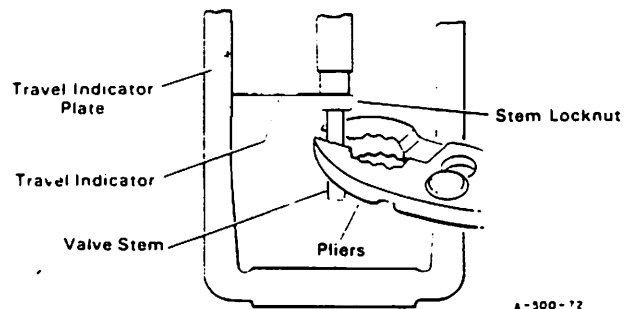

Figure 23. Adjusting Valve Plug Travel
4. Loosen stem locknut, Figure 23. Grip valve stem near threads, and turn stem to move valve plug the distance measured in Step 2.
3. Loosen stem locknut, Figure 23. Grip valve stem near threads, and turn stem to move valve plug the distance measured in Step 2.